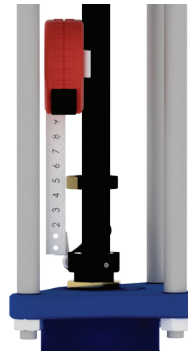

Figure 23
2.12.6) Tighten the stop collar to the correct measurement (see Figure 23).